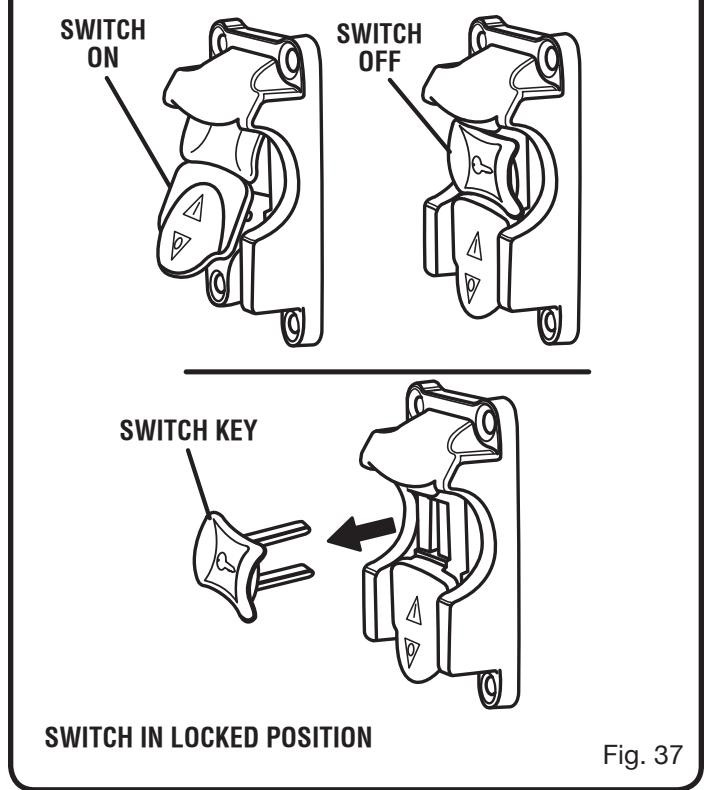

Fig. 37
- NOTE:** To prevent unauthorized use, remove the switch key as shown in figure 37.